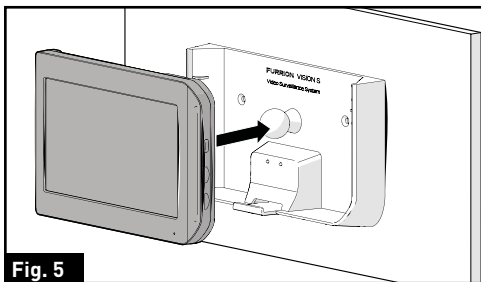

Fig. 5
6. Align the monitor into the installed bracket and push firmly until the dot bullet locks into the monitor. (Fig. 5)